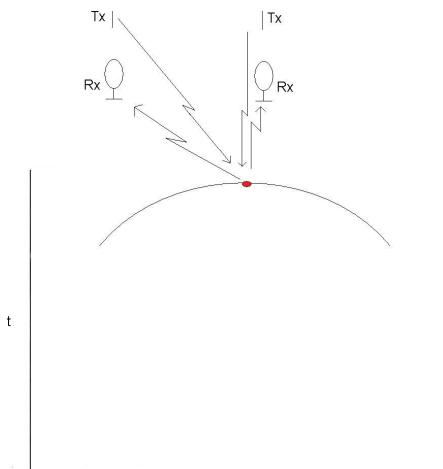

Figure 2: Need for migration
Figure 2: Current-voltage plot demonstrating hysteretic phenomena of HP Lab's memristor. The application of a sinusoidal voltage (V) across the device will move the boundary between the doped and undoped regions causing the charged dopants to drift. The distribution of the dopants, and thus the resistance of the device, is proportional to the charge that passes through. Note the corresponding charge-flux plot shows a much simpler non-hysteretic relationships.
An example of a typical current-voltage characteristic observed by the HP engineers is shown by the so-called Lissajous plot of Figure 2. In relation to the features highlighted above, the two approximately straight line segments within the curve correspond to the two distinct resistance states. The connecting end parts are the transition regions between these two states. Obviously, a memristor can be used as a switching device, where the low resistance or conduction state can be associated with its 'ON' state and the high resis-
Unfortunately there's a fundamental problem with the data acquired by any time-based GPR. To simplify the situation a 2D scenario is used. In the case of our radar we could say that we would only take data from one loop. Now, let's take a look at Figure 2. The antenna is located at the top and there's an object located beneath it, which is denoted in red. It's important to